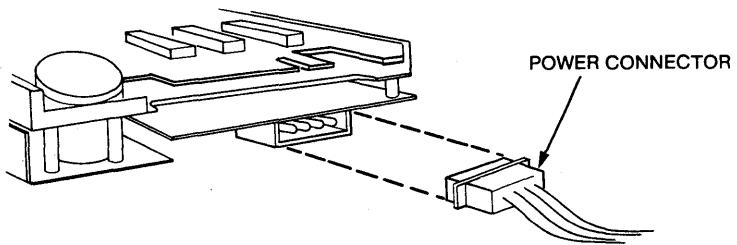

Figure 8: Applying Power to the Tape Drive
8. Locate an available power lead (twisted wire cable with plastic four-pin connector) inside your system and apply it to the tape drive as shown in Figure 8: